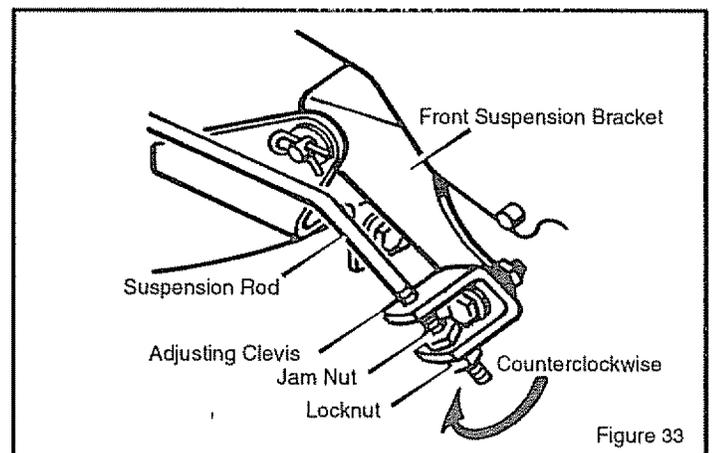

Figure 33
1. Loosen the jam nut (Figure 33).